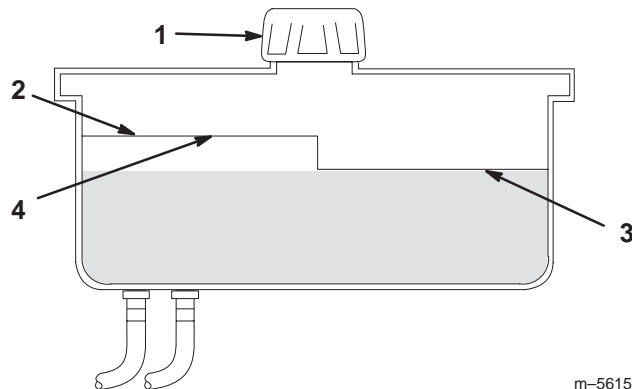

Figure 44
2. Clean area around filler neck of hydraulic tank (Fig. 44).
3. Remove cap from filler neck. Look inside to check if there is fluid in the reservoir. (Fig. 44).
Note: The fluid level should be to the top of the **hot** level of the baffle, when the fluid is hot (Fig. 44).
8. If there is no fluid or it is low, add fluid to reservoir until it reaches the cold level baffle (Fig. 44).